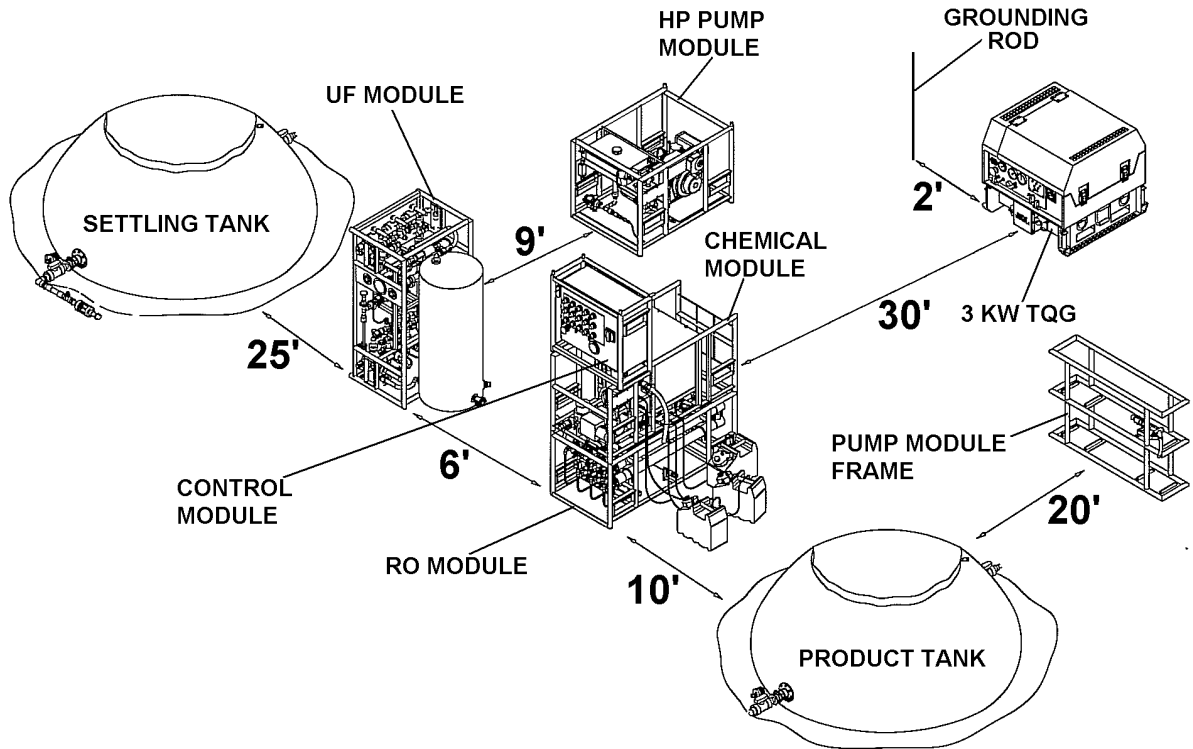
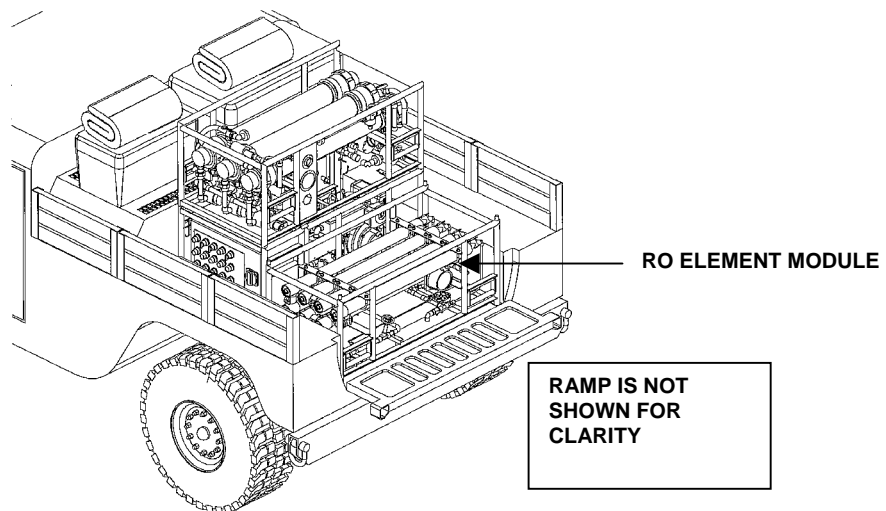

Figure 8. Recommended Distances Between the Components.
Figure 10. Offloading Reverse Osmosis Element Module.
6. Stage the service pump modules in the LWP operational area. Placement will be near the product tank. It is not necessary to connect the modules at this time. For approximate locations of the modules see Figure 8.
7. Offload chemical module from the vehicle. Place in the center of the operational area until the Reverse Osmosis (RO) element module is offloaded. See Figure 8.
9. Offload RO element module from the vehicle. Stage the RO module in the center of the LWP operational area. Make sure the sampling valves are facing the operator. See Figure 8, Figure 10.
10. Stack the chemical module on top of the RO module. Make sure the three chemical injection pumps are also facing the operator. See Figure 8.
13. Stand the UF module upright with the metal grate on the bottom. Ensure that the bottom of the filtrate tank is on the ground. Position the UF module as level as possible. See Figure 8.
16. Stack the control module on top of the chemical module at least 3 inches from the edge of the module. The switches on the control panel should be facing the operator. See Figure 8.
18. Remove the three small 2.5-gallon chemical tanks from the module and place them on the ground, on the right side of the RO module near the chemical tubing connection point. See Figure 8.
20. Place the high-pressure pump module to the rear of the UF module, approximately 10 feet. See Figure 8.
24. Position the product water tank downstream of the stack of the control module, chemical module, and RO modules approximately 6 feet. See Figure 8.